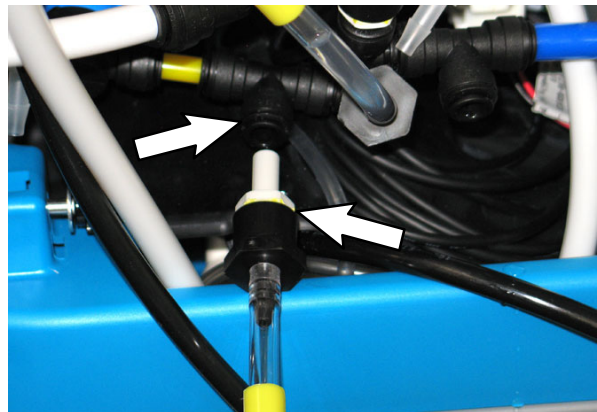

FIG. 30
29. Connect fitting end of yellow hose assembly to the t- fitting with the yellow marking. (Fig. 30)